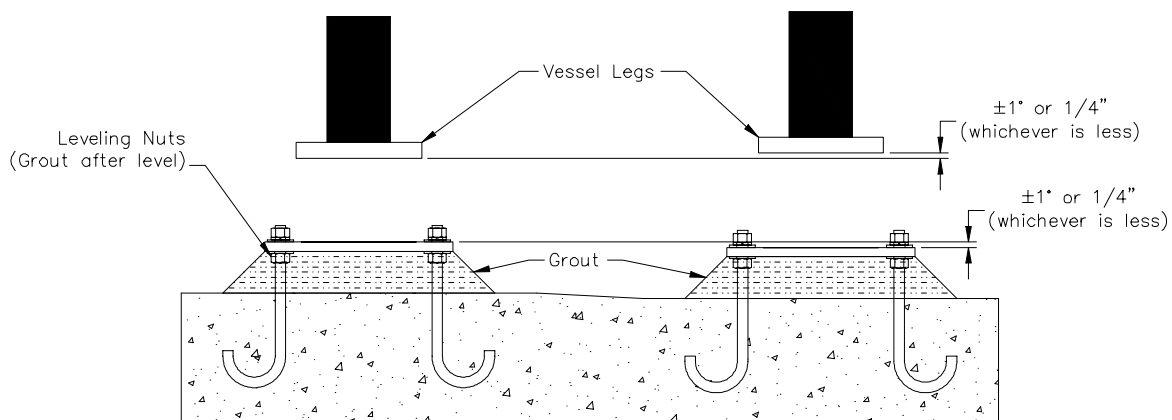

Figure 3-1: Angular misalignment
- b. Also check the surfaces for flatness and angular misalignment. *A baseplate with leveling nuts is recommended.* (See Figure 3-1)